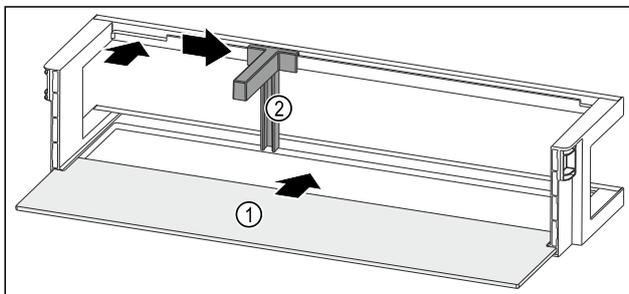

Fig. 89 Door rack with shelf
- ▶ Push the shelf Fig. 89 (1) into the side recesses.
- ▶ Insert the bottle holder Fig. 89 (2) in the recess.
- ▶ Push the bottle holder Fig. 89 (2) to the desired position to the side.